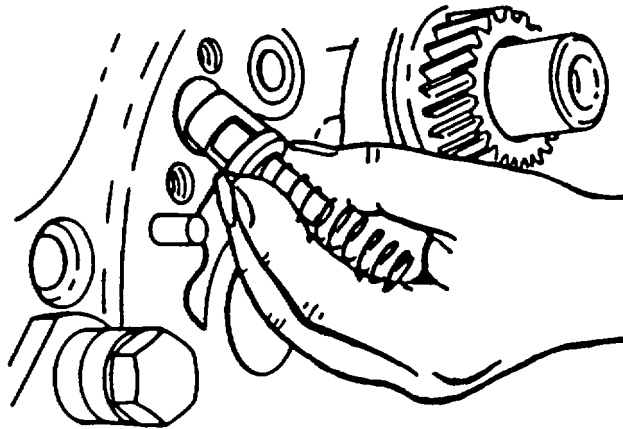

FIGURE 3-57. Oil Bypass Valve Installation
- Remove oil bypass valve and spring, refer to FIGURE 3-57.
- a. Install valve and spring in bore of engine block, refer to FIGURE 3-57.